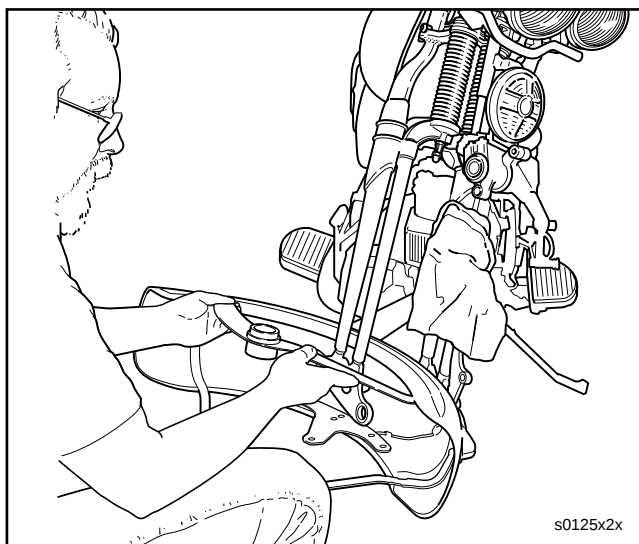

Figure 3
12. See Figures 3 and 4. Slide fender into position keeping right fork leg between fender and struts.
15. Install screw (117), washer (118), and nut (120). Tighten nut to 18-22 ft-lbs (24-30 Nm). Install spring clip (119) on screw.